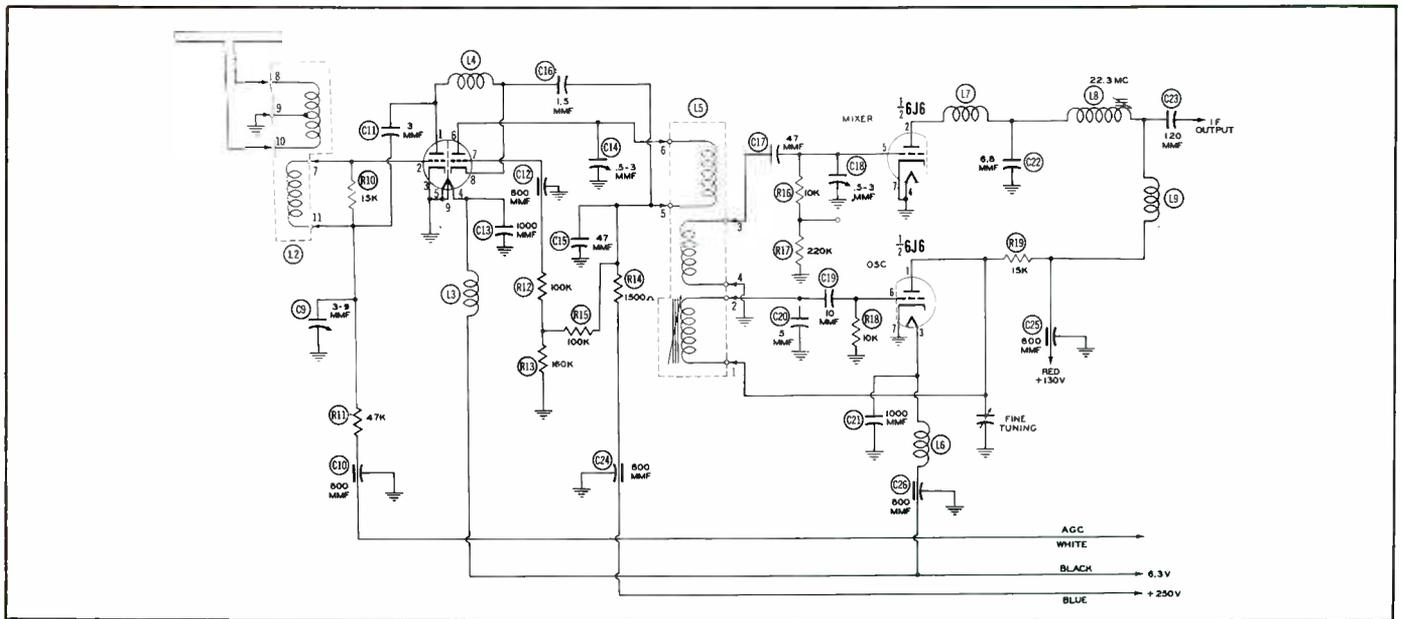

Fig. 5. Complete Schematic of a Standard Coil Cascade Tuner.
A complete schematic of the Model TV-2232 Standard Coil tuner considered in this article is shown in Fig. 5. Six electrical connections are required between tuner and receiver: (1) 250-volt B+ line for RF amplifier plate, (2) 130-volt B+ for mixer plates, (3) 6.3 volts for heaters, (4) AGC line to RF stage, (5) IF output, and (6) ground connection for the entire tuner. Voltages 1 and 2 can usually be obtained at some point in most receivers. Current requirement of the tuner is low and should not differ materially from that of the original tuner. Slight variations from these values will have no noticeable effect on the tuner operation. These voltage points should be well filtered. If oscilla-